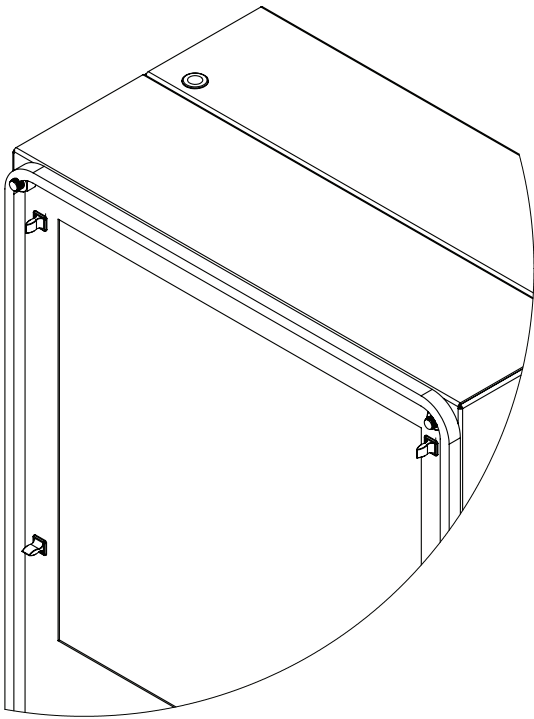

Figure 7
3. Using the mounting gasket kit provided with the unit, install gasket to the air conditioner front panel. See Figure 7.